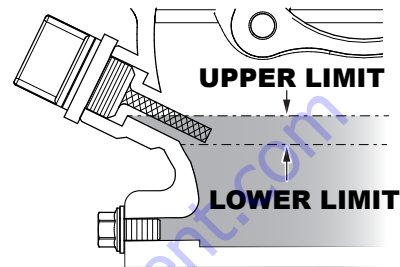

Figure 6. Engine Oil Dipstick (Oil Level)
4. If the oil level is low (See Figure 6), fill to the edge of the oil filler hole with the recommended oil type (Table 4). Maximum oil capacity is 1.16 quarts (1.1 liters).